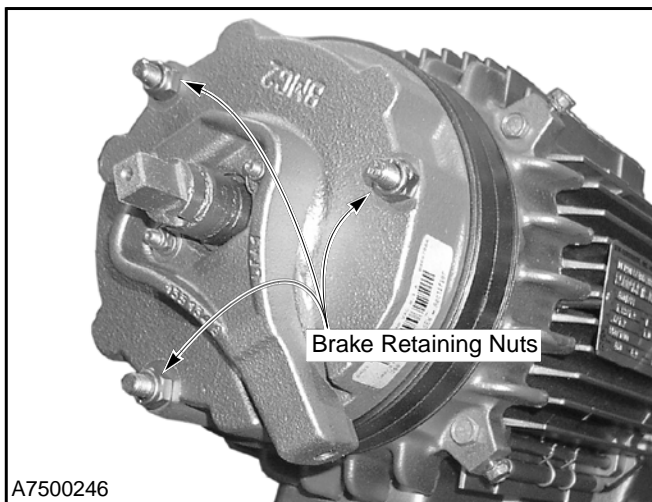
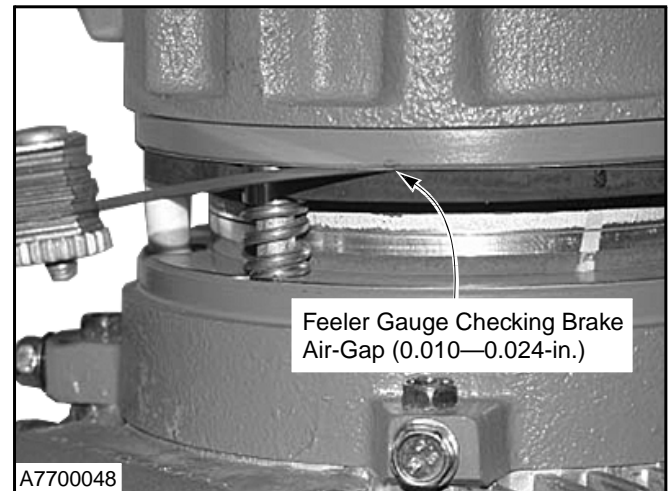

Figure 40
Figure 41
4. Using a feeler gauge and a nut driver, adjust the retaining nuts until you achieve the proper air-gap (0.010–0.024-in.). (See Figure 40 and Figure 41.)